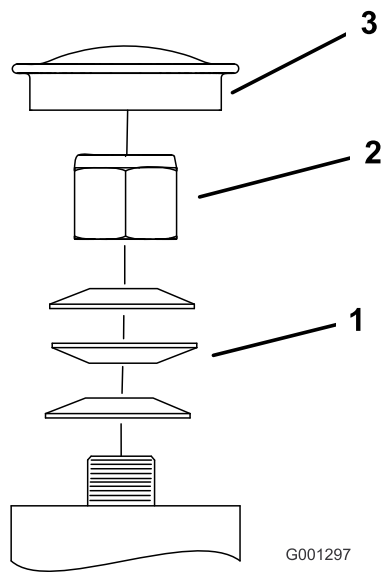

Figure 60
3. Remove the dust cap from the caster and tighten the lock nut (Figure 60).
4. Tighten the locknut until the spring washers are flat, and then back off a 1/4 turn to properly set the preload on the bearings (Figure 60).
Important: Make sure that the spring washers are installed correctly as shown in Figure 60.
5. Install the dust cap (Figure 60).